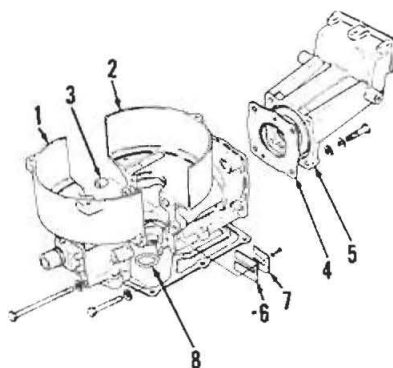
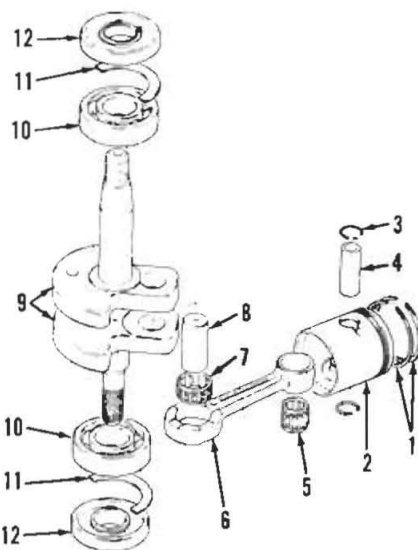

Fig. SZ1-4—Exploded view of crankcase and cylinder assembly.
Fig. SZ1-5—Exploded view of crankshaft, piston and related components. On 1988 and later models, thrust rings (11) are full-circle design.
**DISASSEMBLY.** Disassembly and inspection may be accomplished in the following manner: Remove cylinder head and clean carbon from combustion chamber and any foreign material accumulated in water passages. Detach crankcase half (1—Fig. SZ1-4) from cylinder block after removing six crankcase cap screws. Crankshaft and piston assembly may now be removed from cylinder block.
On early models place thrust rings (11—Fig. SZ1-5) in cylinder block (2—Fig. SZ1-4), then install crankshaft assembly. On later models, thrust rings are full-circle design and must be assembled on crankshaft pin. When installing crank-
**REED VALVE.** The reed valve is located on the inside of crankcase (1—Fig. SZ1-4). Power head must be removed and crankcase separated from cylinder block as outlined in the POWER HEAD section to service reed valve assembly.